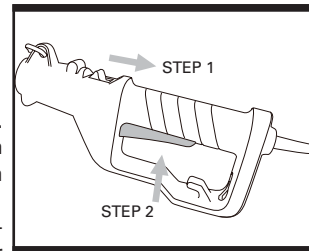

Fig. 5a
The pole hedge trimmer is fitted with a lock-off button feature. To start the pole hedge trimmer, simply pull the lock-off button (8) and hold it in position then fully press and hold the switch trigger (9) to switch the product on. (See Fig.5a)